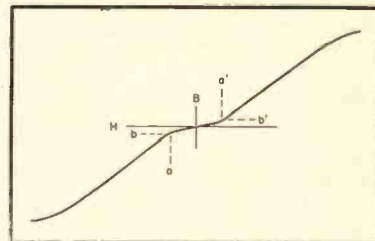

Figure 3.
At (B) there appears the waveform of the specially added voltage, corresponding in phase or polarity to that of the signal in each portion of the signal cycle, but having a fixed peak value. (C) shows the two mixed. The audio signal appears above and below the bracketed dotted lines. The audio never reaches zero. In effect the audio waveforms are plotted with two baselines, one for positive and one for negative alternations. The real baseline—equivalent to zero value of *H* in Fig. 3—is not reached except by the superimposed voltage in passing through it to change polarity.